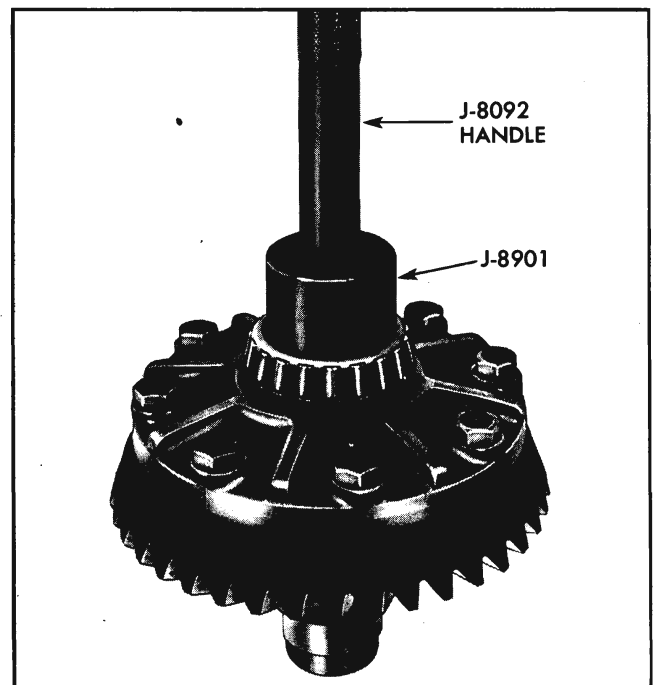

Fig. 4-34 Installing Differential Side Bearing
8. Press on side bearings using J-8901 and J-8092 handle (Fig. 4-34).
9. Press on side bearings, if removed, using J-8901 and J-8092 handle (Fig. 4-34).